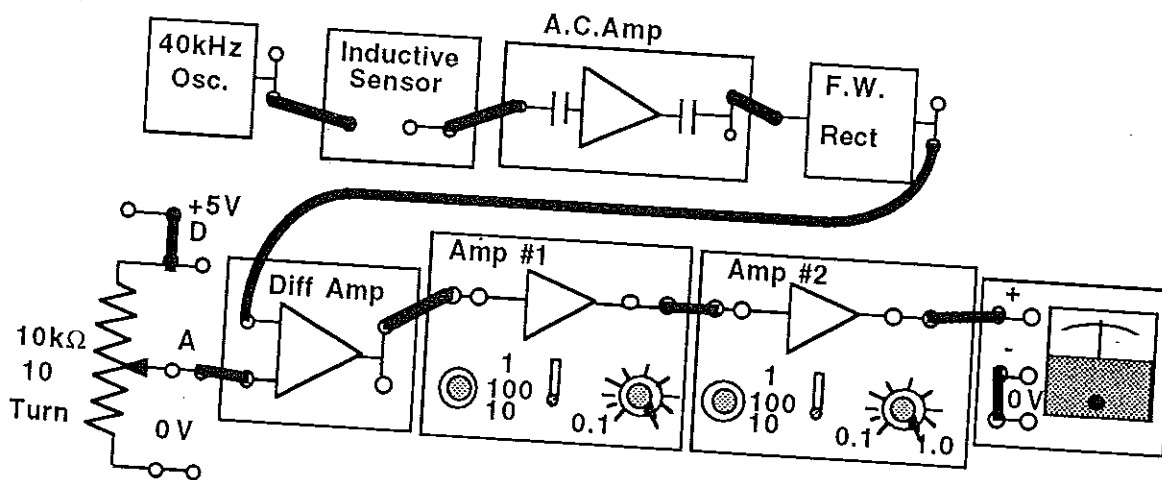

Figure 83
- Connect the circuit as shown in Fig 83, set the A.C. amplifier gain to 1000 and amplifiers #1 and #2 to 10 (Coarse) and 1.0 (fine) and set the drive shaft with the disc slot in the top vertical position.